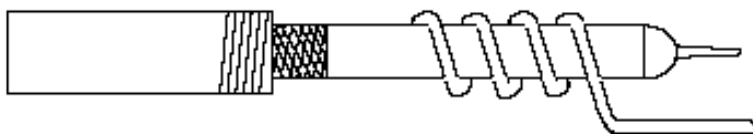

Figure 3. Recommended probe configuration.
3. Use a balanced impedance probe tip across C_{OUT} to measure V_{OUT} Ripple to avoid noise coupling into the probe ground lead. The recommended probe configuration is shown in Figure 3.